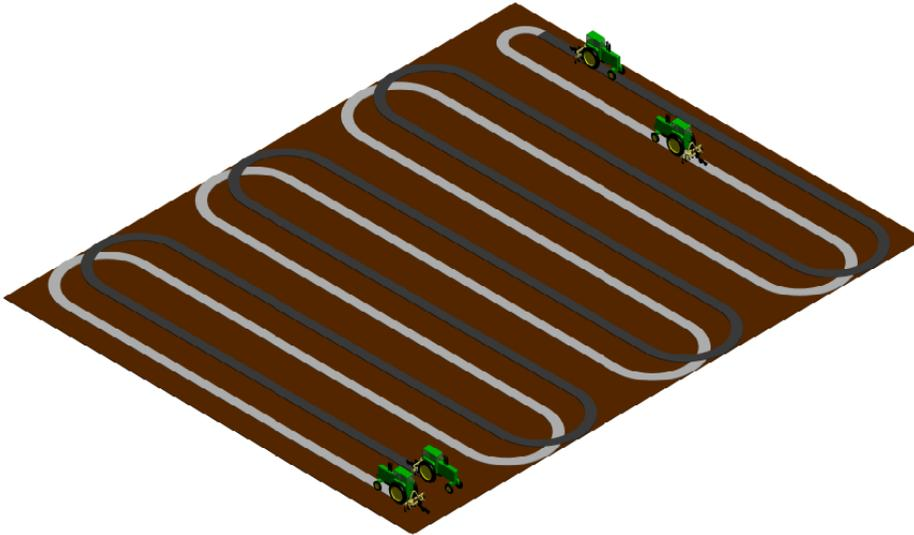

Figure 5. Double-back or skip-pass method
-double back (also called skip-pass) if feasible as shown below (Figure 5); this provides a more stringent pass-to-pass repeatability test